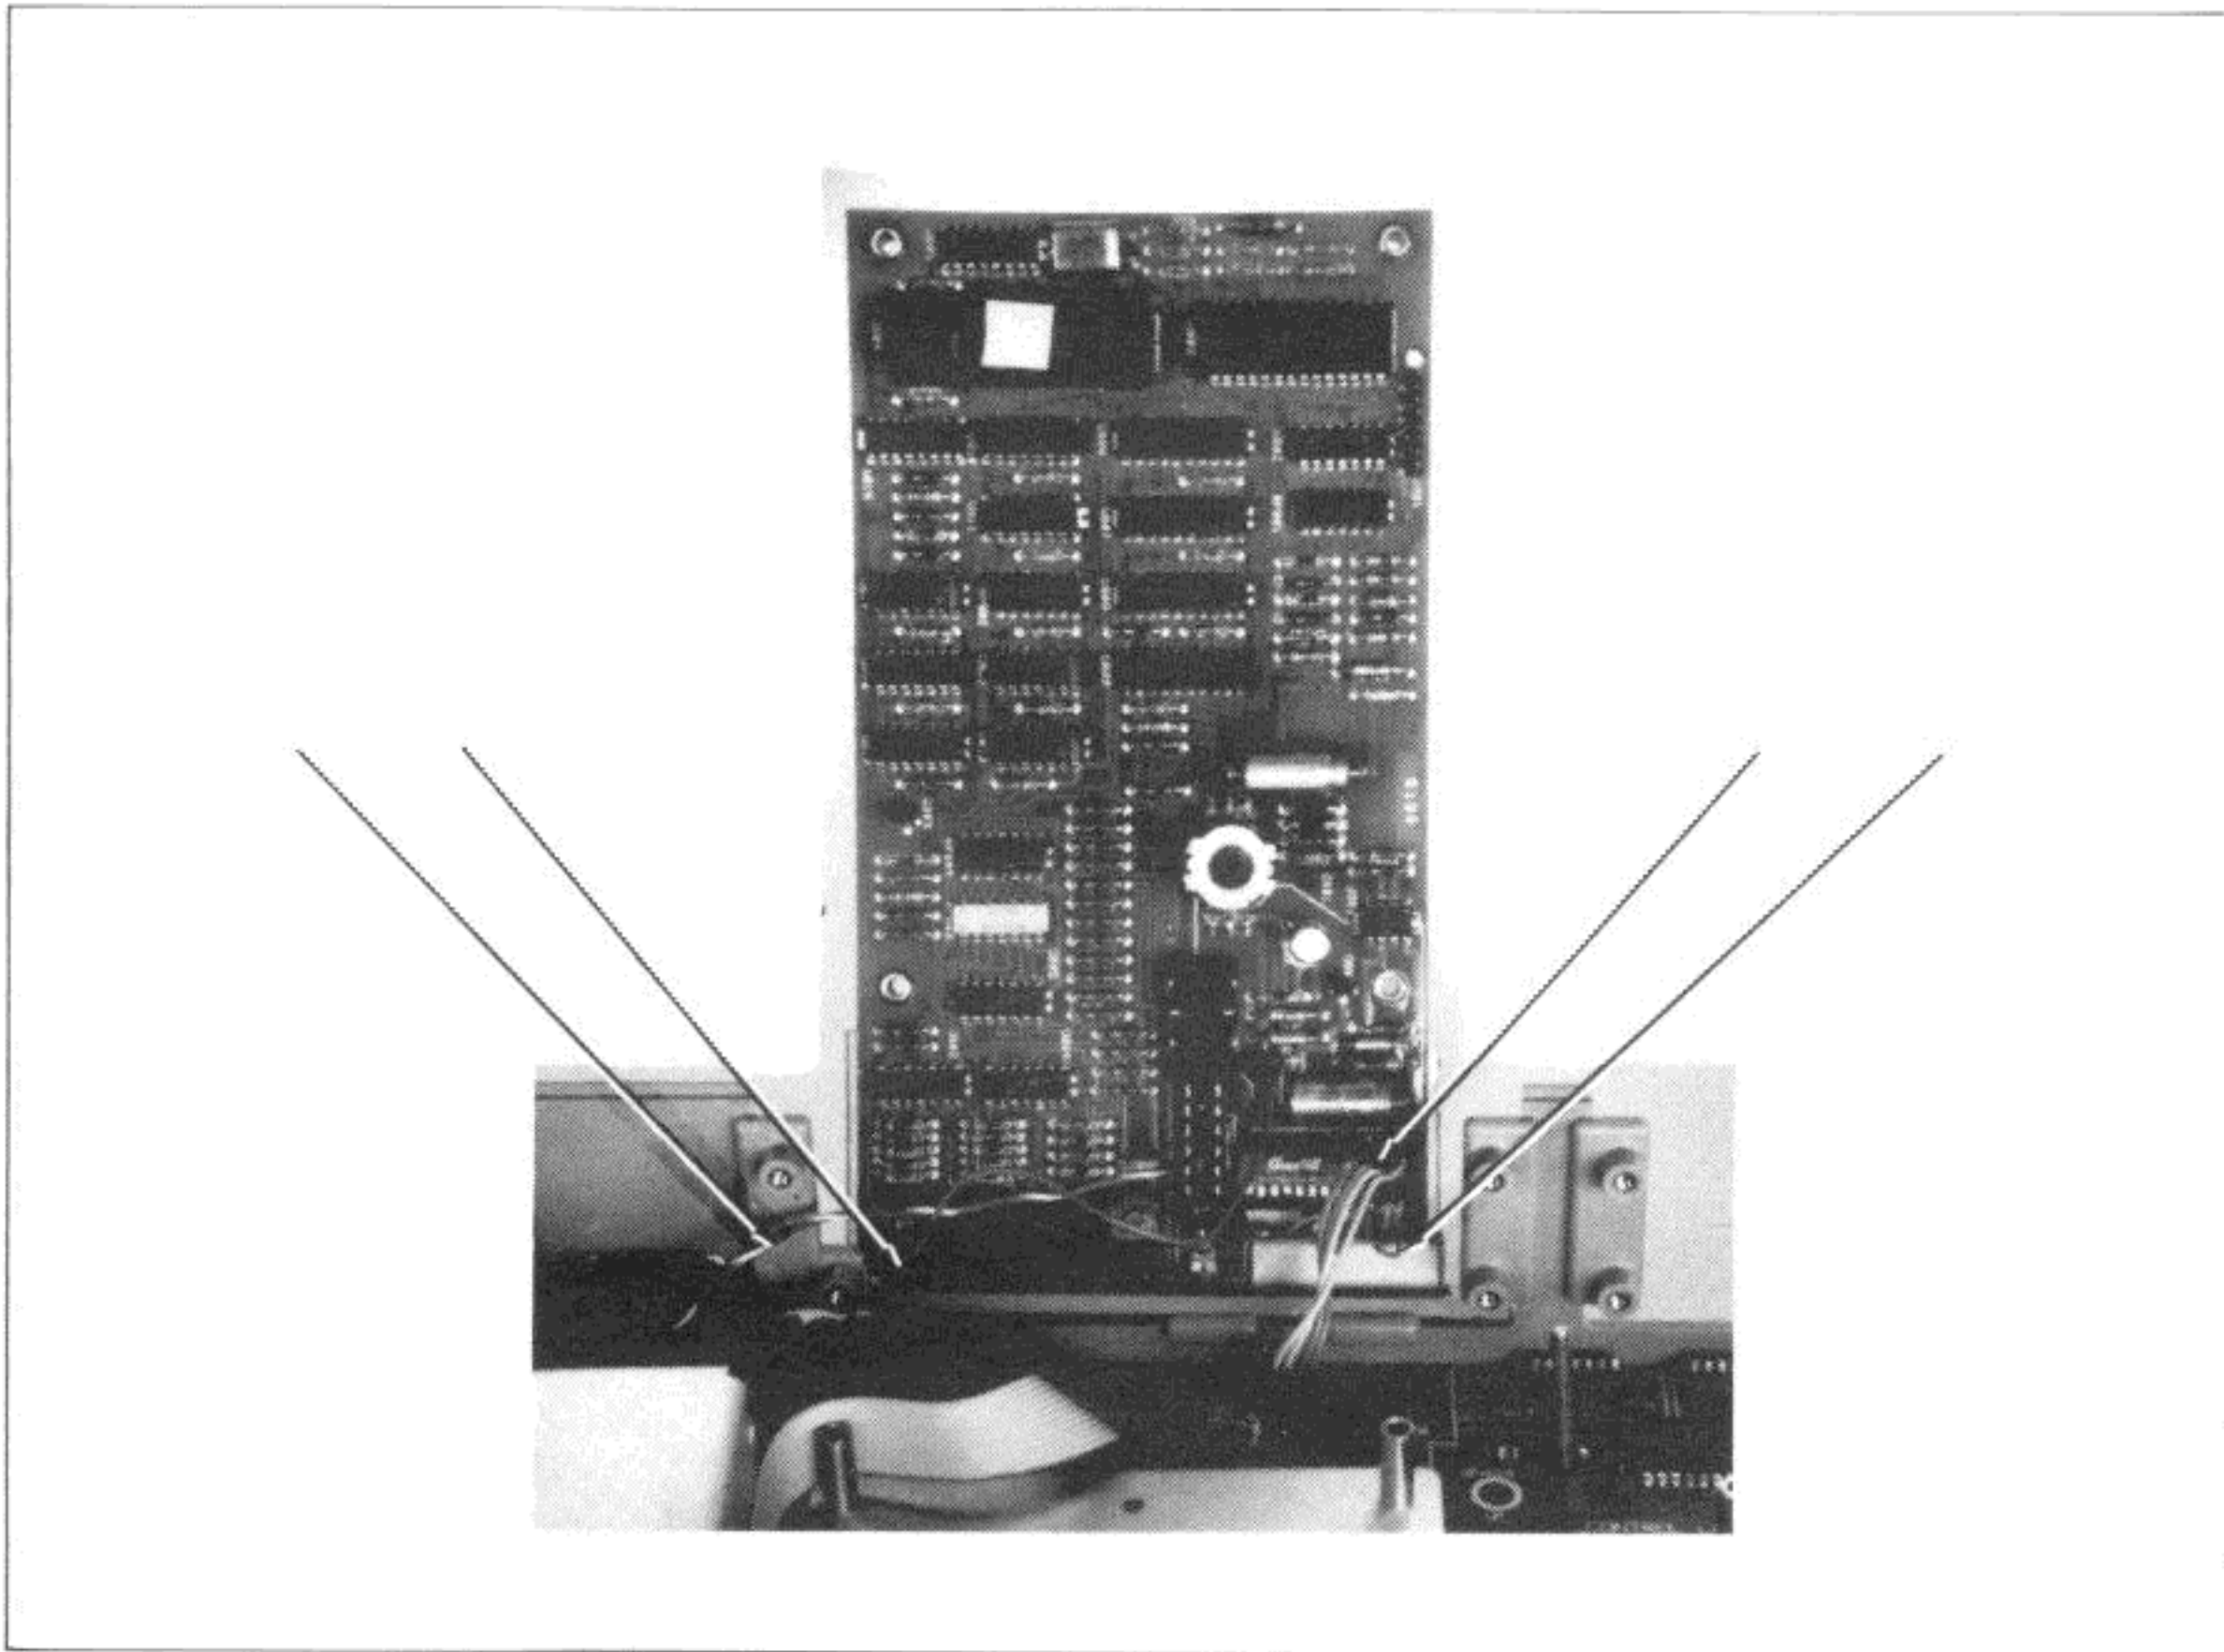

Figure 4-2-6. Connect HP-IB Option Wires/Cables
- k. Refer to Figure 4-2-6 and plug the various cables and wires between the HP-IB option assembly and motherboard as follows: